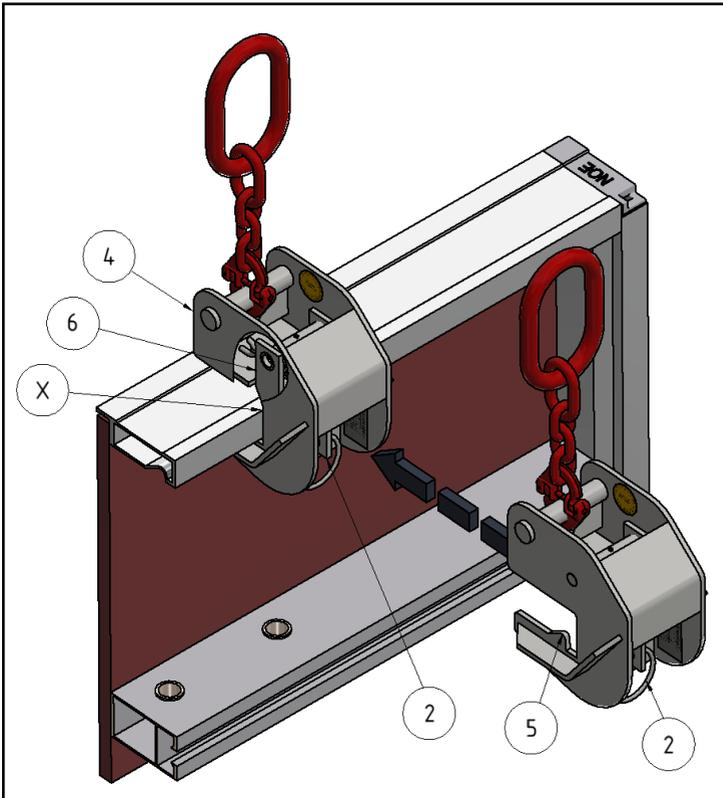

Figure 5: Attaching the Alu-L crane hook
Push the Alu-L crane hook over the Alu-L profile as illustrated in Fig. 5, until it engages in the profile (see X). The locking hook (5) will engage automatically in the profile and the safety catch (6) locks in place.
<p>Check that the actuating lever (2) retracts fully to its initial position (see Fig. 5) on the Alu-L crane hook (4).</p>
Set down the load in such a way that the actuating lever (Fig. 5) cannot strike against or the Alu-L-crane hook come to rest on an obstructing object.